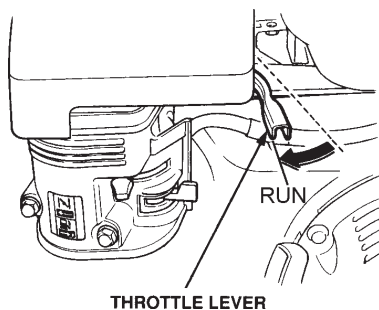

Figure 8. Throttle Lever (Run)
- To begin pumping, place the throttle lever (Figure 8) in the "**RUN**" position.